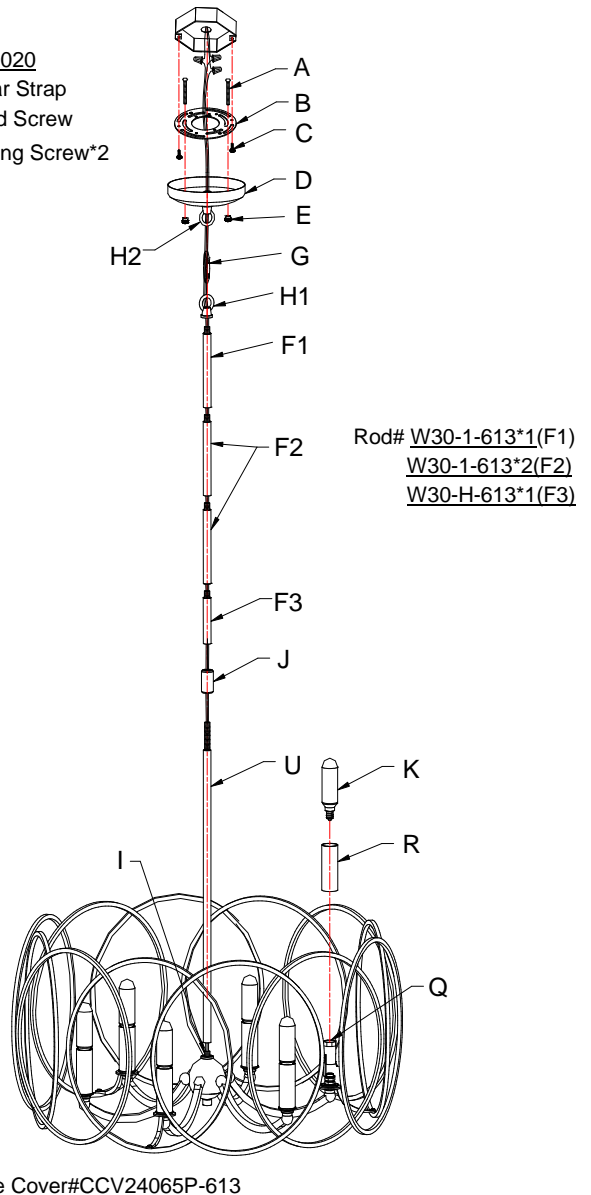

Fig. 3
CONNECTING THE WIRES (Fig. 3)
10. At this point, connect the electrical wires as shown in figure 3, making sure that all wire connectors are secured. If your outlet has a ground wire (green or bare copper), connect the fixture's ground wire directly to the circular strap (B) using the green screw provided.
11. Tuck the wire connectors neatly into the ceiling Junction Box and then raise the canopy (D) all the way to the ceiling.